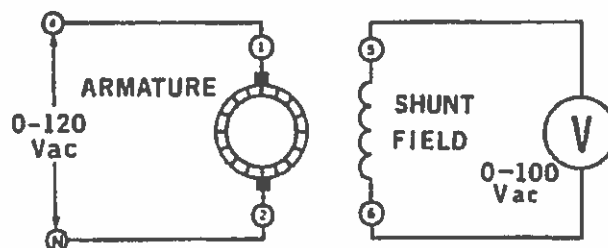

Figure 12-1.
1. You will now determine the neutral brush position for your DC motor by using alternating current. Using your Power Supply, AC Voltmeter and DC Motor/Generator, connect the circuit shown in Figure 12-1. Terminals 4 and N on the power supply will furnish variable 0-120 V ac as the voltage output control is advanced.